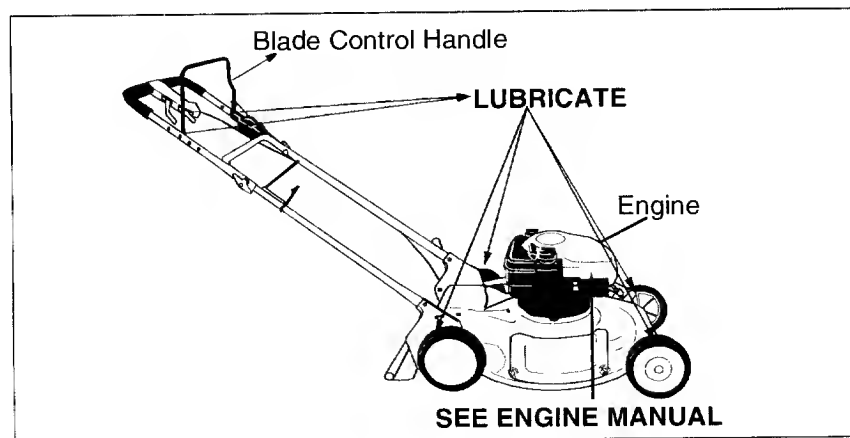

Figure 11
**Blade Control:** Lubricate the pivot points on the blade control handle and the brake cable at least once a season with light oil. See Figure 11. The blade control must operate freely in both directions.
**Wheels:** Lubricate the wheels at least once a season with light oil (or engine oil). Also, if the wheels are removed for any reason, lubricate the surface of the axle bolt and the inner surface of the wheel with light oil. See Figure 11.